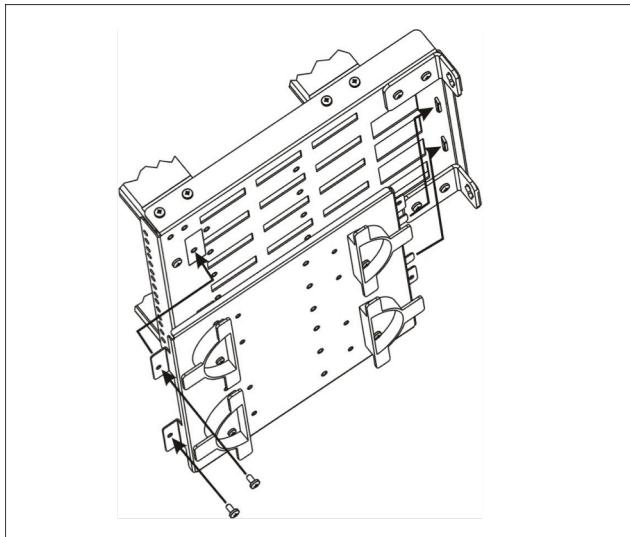

Figure 4. SPL-4H installation
- ① Slide the two narrower tabs at the edge of the SPL-4H into the openings on the side of the WR-5U, toward the rear of the mounting.
- ② Align the wide tabs at the front edge of the SPL-4H with the threaded holes on the side of the WR-5U frame. Use the two (2) included #10-32 x 3/8" screws to securely fasten the side plate to the frame.
- ③ Carefully wrap cables around the take-up reels to reduce slack as needed. Example routing is shown in Figure 4. Alternate mounting holes are located on the side plate for repositioning the half-reels, if desired.